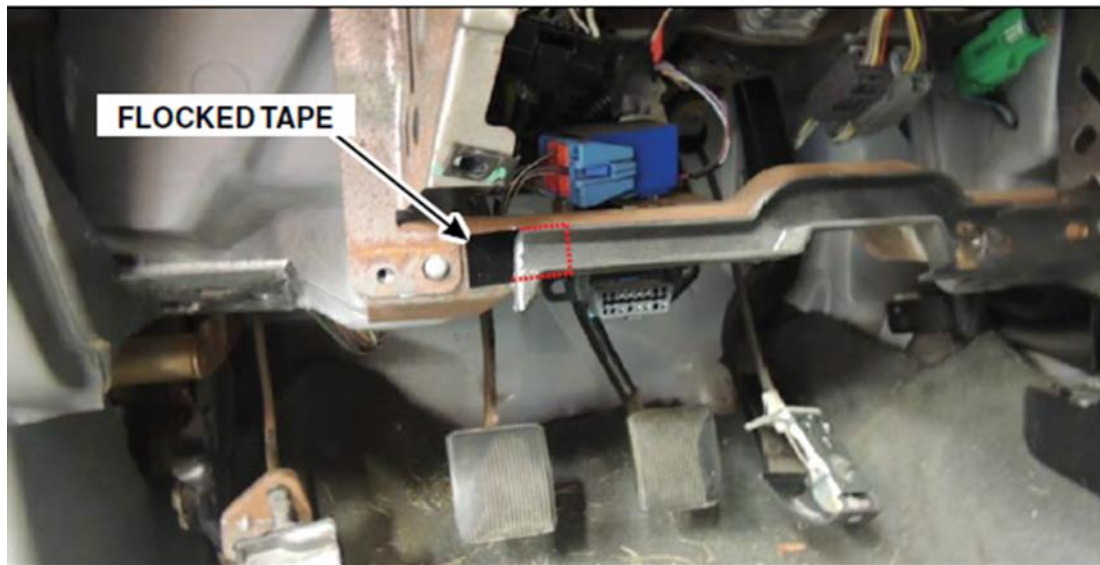

FIGURE 13
12. Using a strip of flocked tape from the JVCC FLOCK-1 Flocking Tape or Hush Mat Quiet Tape #30300, measure and cut a 0.75 inch (19mm) x 1.75 inch (44mm) piece of flocked tape. Using the adhesive backing, adhere the piece of flocked tape onto the metal frame half way between the inboard substrate cut, as shown in Figure 13.